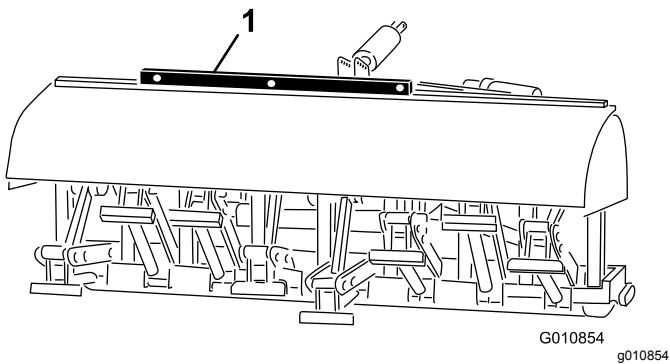

Figure 29
2. Place a level on top of the aerator frame to check for level side-to-side (Figure 29).